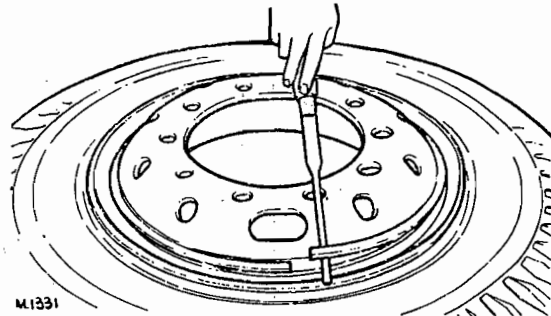

FIG. 1. REMOVING LOCK RING
1. Exhaust all air by removing valve core and, with the aid of a tyre lever or screwdriver, remove the locking ring. See Fig. 1.